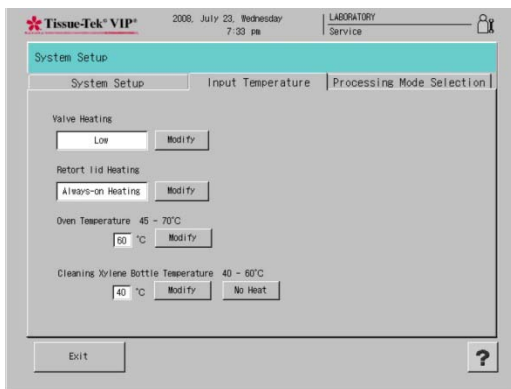

Figure 3-T
- The Input Temperature Screen displays (Figure 3-T).